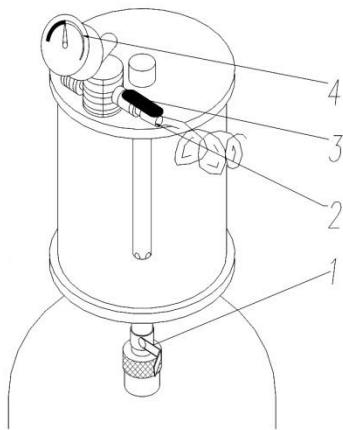
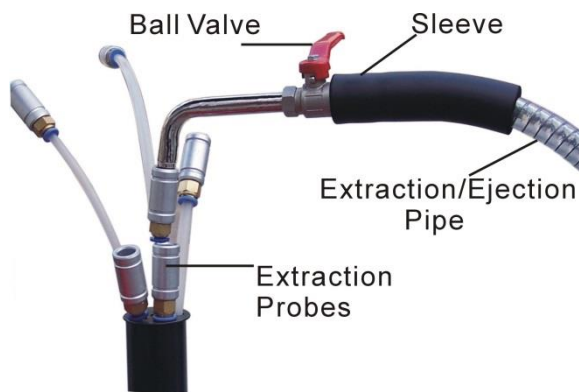

Fig. 1
Fig. 2
2. Connect air compressor to air inlet (No.: 2 of Fig.1)
3. Gradually turn on the air inlet valve (No.: 3 of Fig.1 which equipped by customer himself) for vacuum generation.
Tips: Valve 1(Fig.1) should be on the position off when only extract vacuum for the cylinder, in order to have a view of the quality and quantity of the waste oil.
2. Open the valve (No.: 1 of Fig.1)
3. Gradually turn on the air inlet valve (No.: 3 of Fig.1) for vacuum generation.
1. Benefits for gradually and slowly turn on air inlet valve (No.: 3 of Fig.1) is for reducing air-consumption and a quicker speed for vacuum-generation.
1. Choose suitable probe (which is the largest diameter one can be inserted into the engine) and tightly connect it to the extraction pipe connector. (refer to Fig.2)
3. Turn on the ball valve (Fig.2)
4. If waste oil only extracted into the **cylinder**. Please making sure the valve 1(Fig.1) is closed.
5. If waste oil extracted to the **oil tank** through the cylinder. Please open the valve 1(Fig.1) accordingly. Also the oil tank need to be vacuum before extraction operation.
6. After finish extraction, turn off the extraction ball valve (Fig.2)
1. Turn on valve 1(Fig 1), if vacuum existed in the tank, and then oil from cylinder will be fast transferred into the tank.
2. If no vacuum existed in the tank, turn on the ball valve (Fig.2) for helping making a quicker transferring of waste oil into the tank.
3. Turn off valve1 (Fig.1) and ball valve (Fig.2) after ejection finished.
3. Open valve 1(Fig.1) for air out.
- 1. The ball valve 1(Fig.1) must be closed in order to prevent air enter causing transparent measuring glass damaged.**